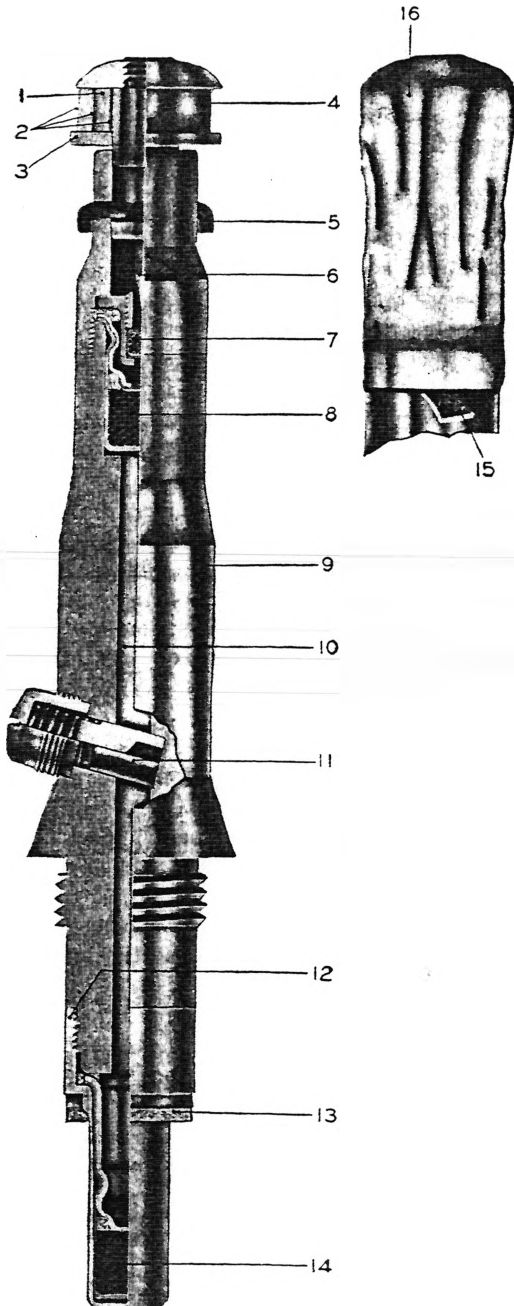

FIG. 11.—Point detonating fuze.
- (1) Point detonating fuze, Mk. III or III-A (fig. 11).
17. **Point detonating fuze, Mk. III.**—*a. Description.*—The point detonating fuze, Mk. III (PDF Mk. III), is a superquick fuze; it is used when it is desired to secure a quick burst above ground with the least possible penetration of the projectile. It is authorized for use in Mks. I, II, and IV shell ammunition, but should not be used in Mk. I shell ammunition with reduced charge, since its use at this velocity causes the projectile to be unstable in flight. The design of this fuze is practically the same as that of the French 24/31 I. A. L. M1916 (Instante Allongé Lefevre or the instantaneous elongated fuze of the Lefevre design). Figure 11 shows this fuze, together with the names of the principal parts.